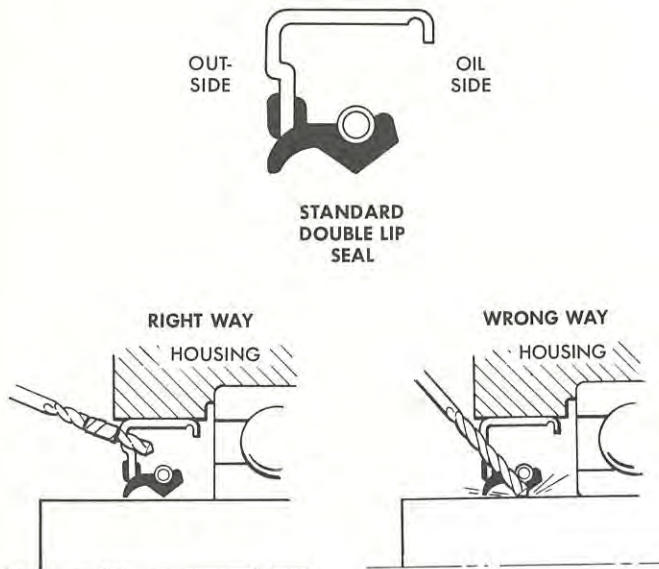

Figure 14
- E. Wrap several turns of tape around the drill approximately .250" from the drill point to prevent the drill from entering too deeply into the housing and damaging the bearing. Grease or magnetize the drill to help retain the chips. Drill two .125" diameter holes in the seal case 180° apart. Control the angle of the drill as illustrated in Figure 14 to prevent damage to the shaft.